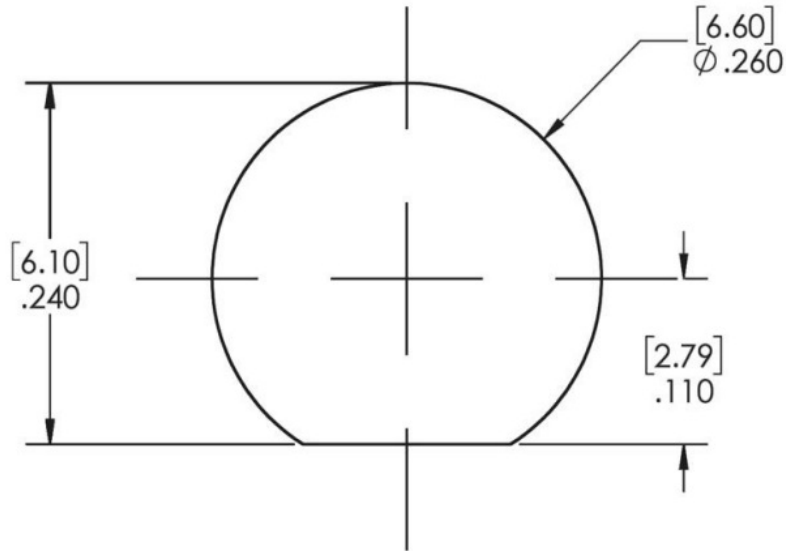

Figure 2 – Recommended mounting hole for 1/4-36UNS-2A threaded antenna
3. Determine the best location for external antenna position and create an opening to mount the antenna and bulkhead (See Figure 2 for measurements).